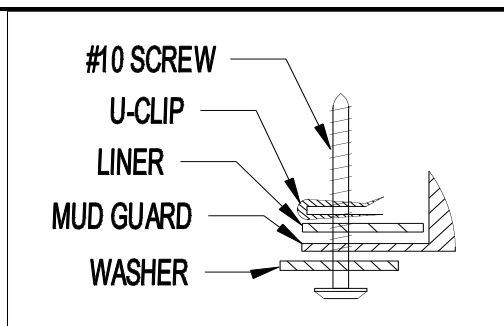

Figure 2
6. Install #10 screw and washer at location D, thru mud guard, fender liner and into a U-clip placed on the backside of fender liner (Figure 2).